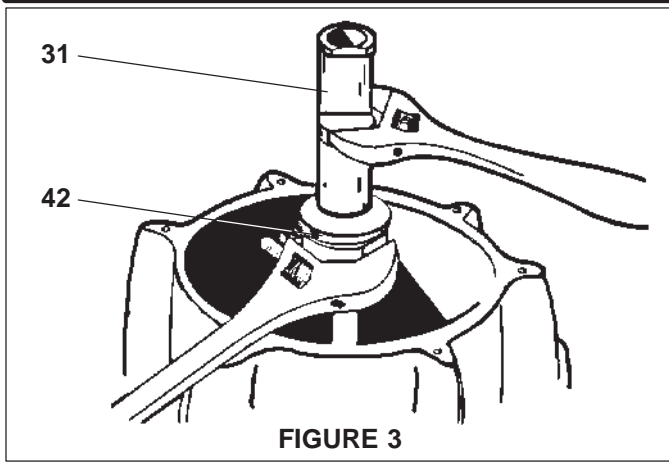

FIGURE 3
18. Disassemble the (31) valve piston from the (42) piston adapter (see figure 3).
19. Remove the (31) valve piston.
20. Pull the (42) piston adapter upward and grasp the (40) extension rod below the (42) piston adapter. Push the (42) piston adapter down on the (40) extension rod. Remove the (36) washer and (42) piston adapter.
21. Remove the (16) washer and the (19) "U" cup from the (42) piston adapter.
22. Remove the four (50) nuts from the four (46) bolts.
23. Remove the four (46) bolts.
24. Remove the (18) head assembly and place it on the workbench with the end that the (28) tube fits in "upward".
25. Remove the (20) "O" ring from the (18) head assembly.
26. Remove the four (21) machine screws from the (43) lower gland.
27. Remove the (43) lower gland.
28. Remove the (44) washer and (15 and 45) "O" rings from the (43) lower gland.
32. Pull the (42) piston adapter up around the (36) washer.
33. Place the (16) washer over the (40) extension rod and into the (42) piston adapter.
34. Clean with solvent and put Loctite 271 on the threads of the (31) valve piston. Screw the (31) valve piston into the (42) piston adapter and tighten (see figure 3).
35. Push the assembled (42) piston adapter and (31) valve piston down thru the 90350 installation tool until they bottom.
37. Install the (37) upper gland over the (31) valve piston and push down, being careful to retain the (38) seal in the "O" ring groove.